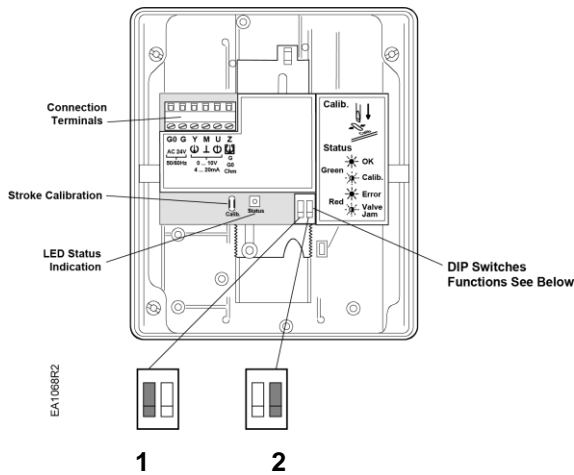
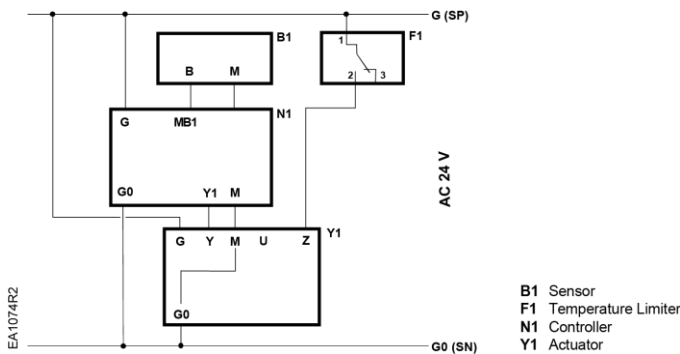

Figure 23. SKB/C62U.
Figure 24.
- Wiring for SKB/C62U is shown in Figure 23 and Figure 24.